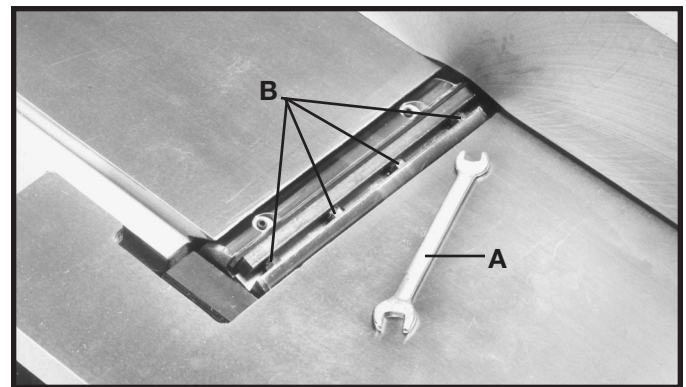

Fig. 56
2. Using wrench (A) Fig. 56, slightly loosen the four locking screws (B) in each knife slot by turning the screws (B) clockwise.
3. Loosen screws (B) Fig. 56, further and remove knife and knife locking bar.
**⚠ WARNING CARE MUST BE TAKEN WHEN INSERTING THE KNIVES AS THE CUTTING EDGES ARE VERY SHARP.** Push the knife down as far as possible and snug up the screws (B) Fig. 56, by turning each screw counterclockwise just enough to hold the knife in position. Replace the remaining two knives in the same manner.